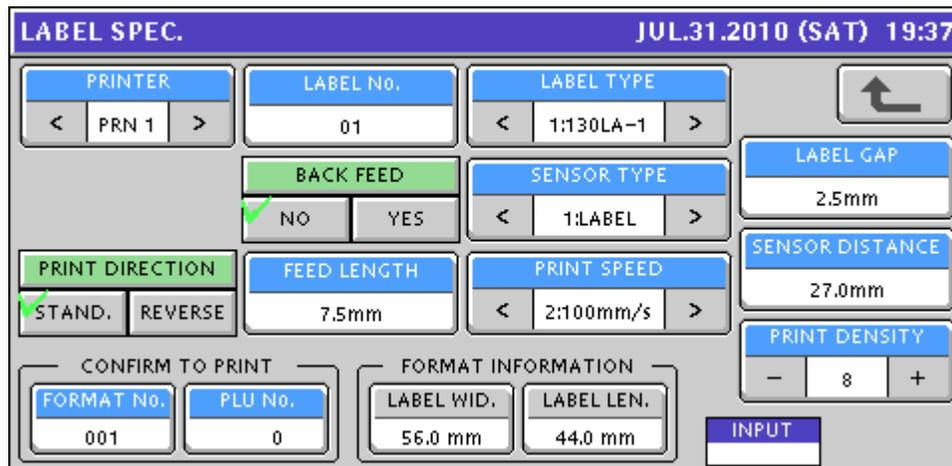

Figure 7.13. Label Specifications (default settings)
5. The current Label Specification settings are displayed. See Figure 7.13.